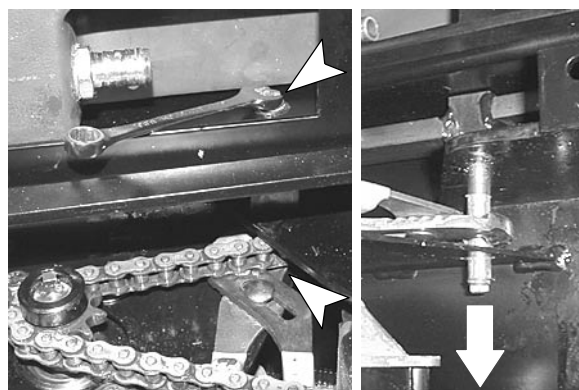

Fig. 11
10. Remove the lift arm pivot pin using a 10mm wrench and pliers as shown. Only remove the top screw and slide the pin out from the bottom (Figure 11).